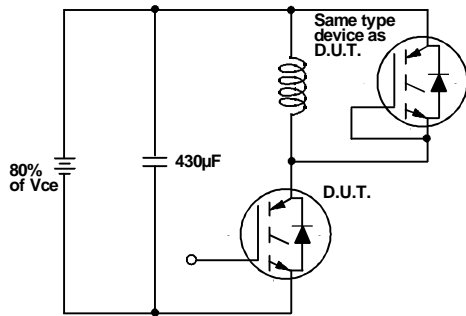

Fig. 18a - Test Circuit for Measurement of I_{LM} , E_{on} , $E_{off(diode)}$, t_{rr} , Q_{rr} , I_{rr} , $t_{d(on)}$, t_r , $t_{d(off)}$, t_f
- Fig. 18e - Macro Waveforms for Test Circuit Fig. 18a